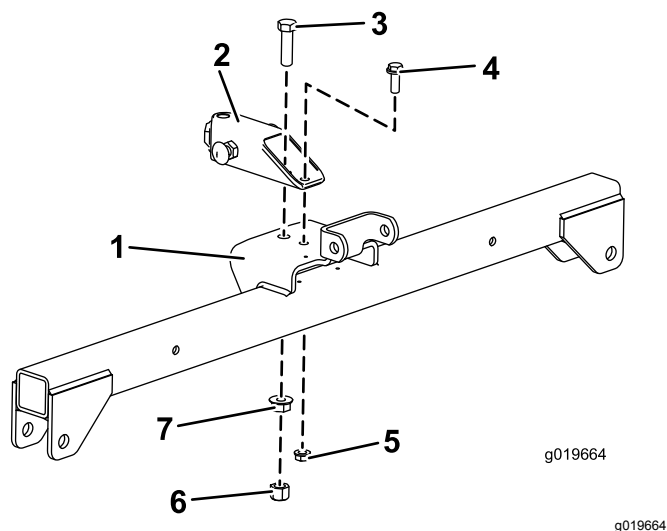

Figure 4
2. Loosely mount the tongue tube to the front hole in the hanger assembly (Figure 4) with a bolt (1/2 x 1-3/4 inches), flange-head nut (1/2 inch) and a hex nut (1/2 inch).